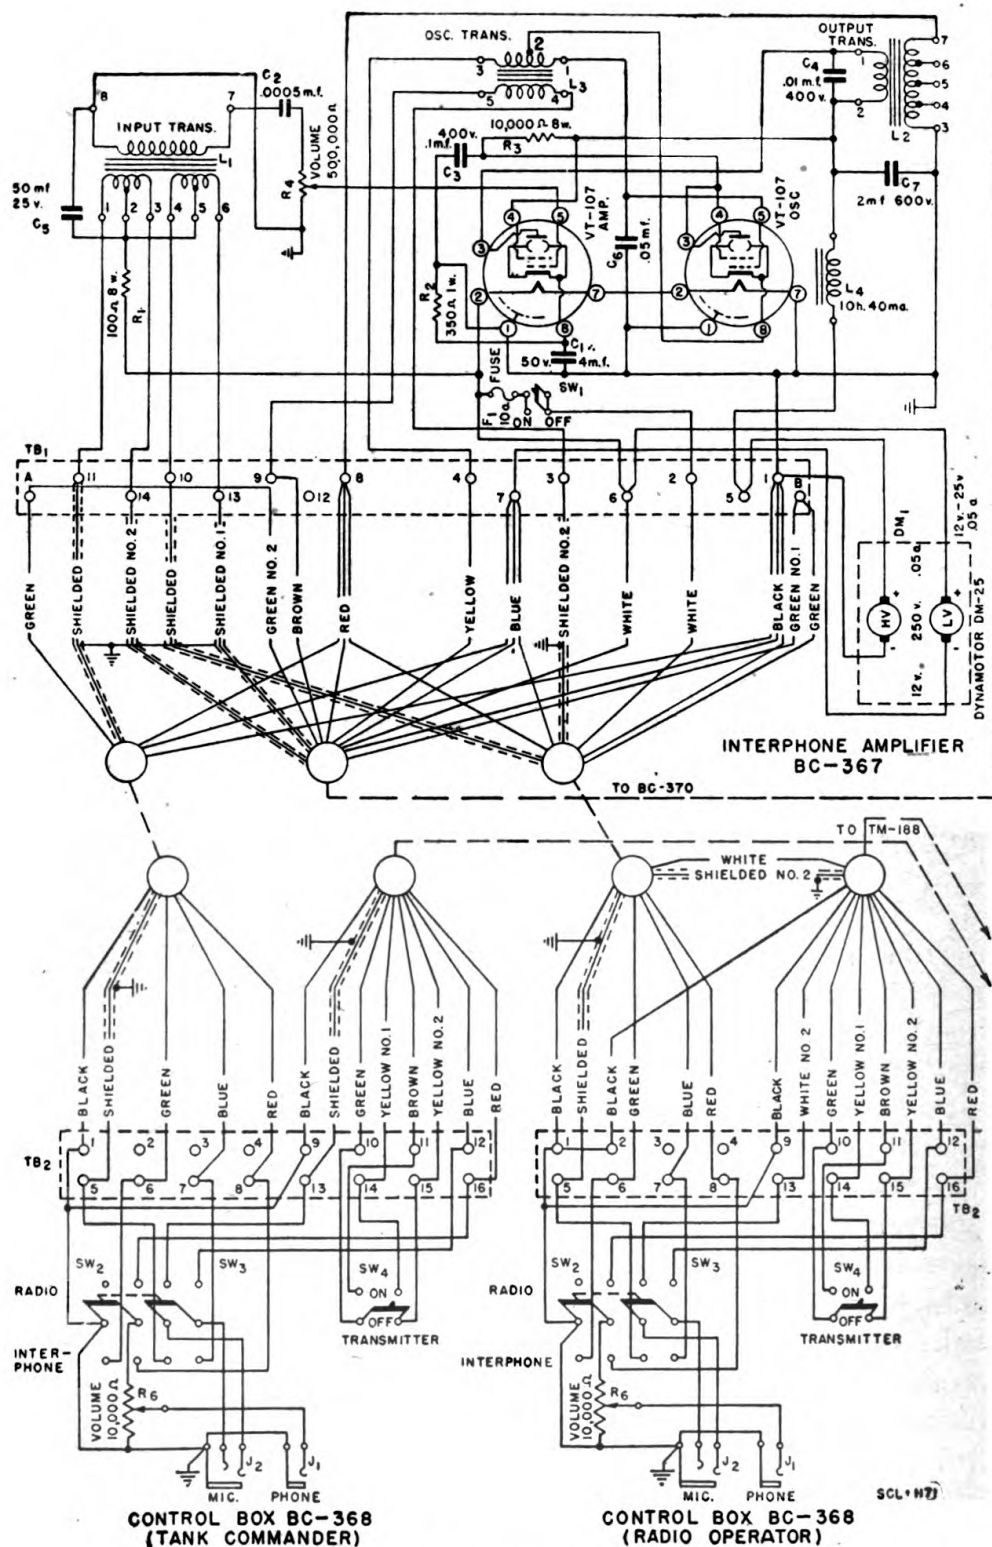

FIGURE 9.—Interphone equipment RC-38, wiring diagram.
e. Conduit and wiring (fig. 9).—(1) The conduits are secured along the walls and ceiling with clamps, screws, etc., provided.
(2) The radio receiver cord CD-269 (not part of the interphone equipment) is connected to junction box TM-188 at the bottom center knock-out hole by means of the box connector. The connections are as follows: Yellow to 6, natural to 2, black to 4, green to 7, red to 8, shield to 10, blue to 12.
(3) The wiring between the car terminal box and junction box TM-188 is connected as shown in figure 9. Like numbers of ter-